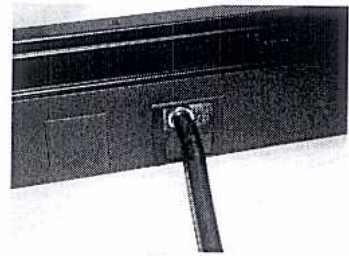

fig 6
7. Snap the cover closed. Fit the receptacle/data bezel in place. (see fig 6)